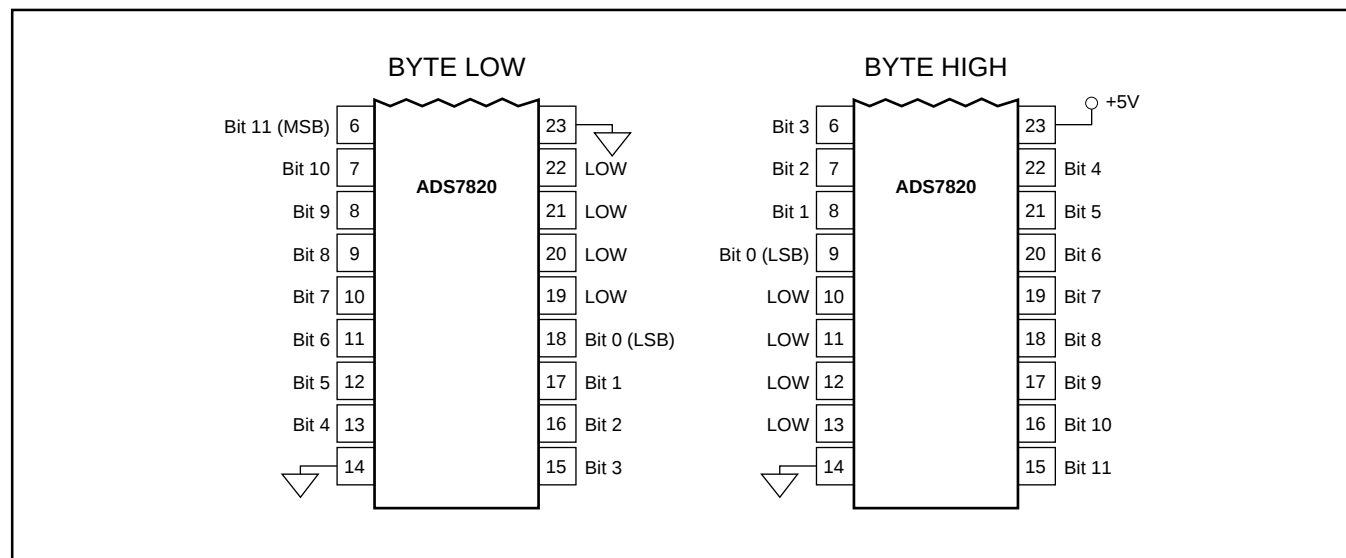

FIGURE 2. Bit Locations Relative to State of BYTE (pin 23).
NOTE: (1) See Figures 2 and 3 for constraints on data valid from conversion “n-1”.
The ADS7820 outputs full or byte-reading parallel data in Straight Binary data output format. The parallel output will be active when $\overline{R/C}$ (pin 24) is HIGH and $\overline{CS}$ (pin 25) is LOW. Any other combination of $\overline{CS}$ and $\overline{R/C}$ will tri-state the parallel output. Valid conversion data can be read in a full parallel, 12-bit word or two 8-bit bytes on pins 6-13 and pins 15-22. BYTE (pin 23) can be toggled to read both bytes within one conversion cycle. Refer to Table II for ideal output codes and Figure 2 for bit locations relative to the state of BYTE.